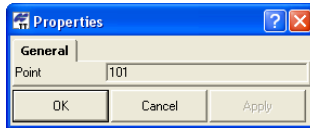

Figure 5-100. General Properties
2. View the number of the image (Figure 5-100).